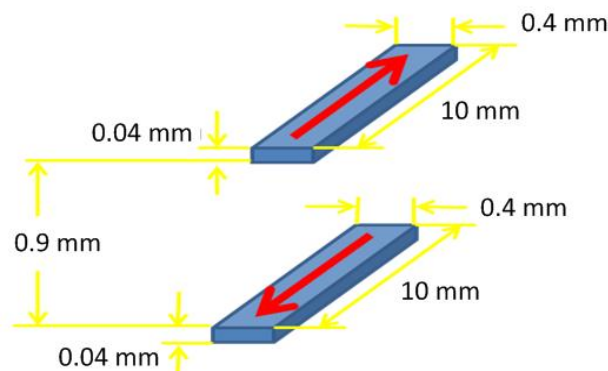

Fig. 1
1. Use the inductance formulas to calculate the partial self and mutual inductances of the two conductors depicted in Fig. 1. Find the loop inductance by the concept of partial inductance. The skin effect is not considered. Simulate the same structure by using the software Q3D, and compare the simulation results with that from the formulas. Comment on these results and validate the correctness of the formulas. [The simplified inductance formulas are also given in Appendix. Please use the simplified formulas as well as the inductance formulas mentioned in the paper for your calculation.]